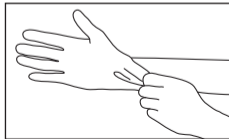

Fig. 6
- 1 Always wear protective gloves, a mask, and protective goggles for safety purposes and to minimize the risk of infection. (Fig. 6)